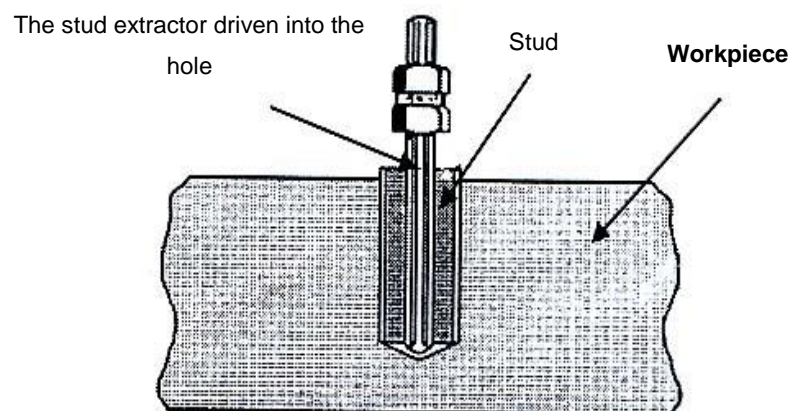

FIG 13.
- E. Slide the nut that will fit the flutes over the extractor. (Fig 13)